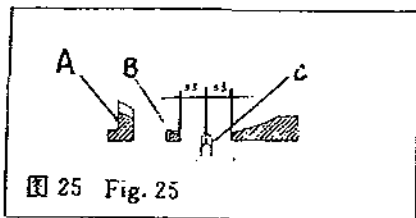
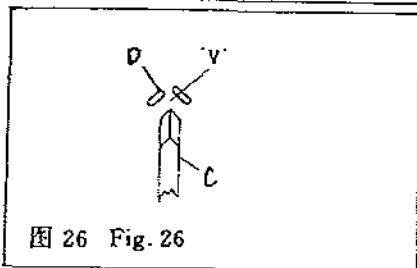

图 25 Fig. 25
图 26 Fig. 26
(1)左右位置 抬料轮“C”的中心位置应与针板“A”上的压料板槽中心位置重合(图 25); 压料板“D”的 V 形槽中心位置与抬料轮“C”中心位置重合(图 26)。
①首先旋松紧定螺钉“C”，转动顶尖螺钉“B”，使抬料轮调节杆“A”无轴向窜动，但又能灵活摆动，然后将紧定螺钉“C”旋紧。
②旋松卡圈“D”的锁紧螺钉“E”及曲柄“F”的锁紧螺钉“G”后将抬料轴左右移动，使抬料轮处于标准位置(图 25)时将锁紧螺钉“E”及“G”旋紧，并保持抬料轴无轴向窜动，但能灵活摆动，且与左右压脚板互不相碰。
③旋松压料板螺钉“A”，左右移动压料板“D”(图 12)使压料板 V 形槽中心与抬料轮中心重合(图 26)时，旋紧压料板螺钉。
(1) The left and right position.
The centre of the ridge forming disc "C" coincides with the centre of material retainer groove on needle plate "A" (Fig. 25); the centre of "V" groove of material retainer "D" coincides with the centre of ridge forming disc "C" (Fig. 26).
① Loosen set screw "C" and turn pointed screw "B" to secure that the ridge forming disc regulating lever "A" swings nimbly and is kept from having axial play, and tighten set screw "C".
② After loosening lock screw "E" of collar "D" and lock screw "G" of crank "F", move the ridge forming disc leftward or rightward to set the ridge forming disc in a position required (Fig. 25), tighten lock screw "E" and "G". Make sure that the ridge forming disc shaft shall be kept from having axial play and swing nimbly. The ridge forming disc shaft shall not come into contact with either the left presser foot or the right one.
③ Loosen material retainer screw "A", move material retainer "D" (Fig. 12) leftward and rightward to make the centre of "V" groove on material retainer coincides with the centre of the ridge forming disc (Fig. 26). Tighten material retainer screw.